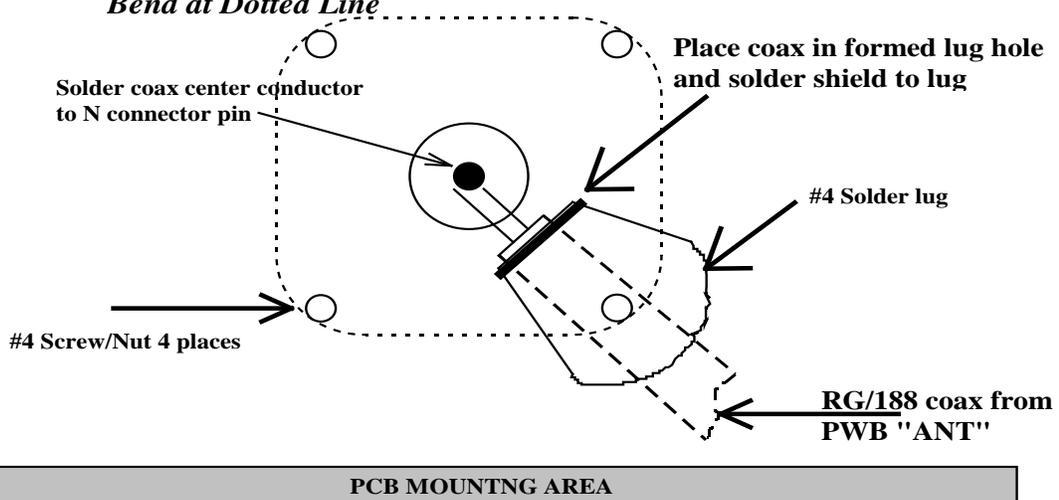

Figure 3 Inside View of Box, Solder Lug Installation on the 'N' Connector
- Push the center conductor of the un tinned end through the hole in the solder lug of the "ANT" connector and allow the shield to penetrate the ground lug hole. If not so bend ground lug towards the N connector center pin to accommodate coax (See figure 3). Solder the shield to the solder lug, then solder the center conductor to the N connector center pin.
4. Route the RX cable to the N connector and attach and solder as shown in figure 3 of the DEM assembly documents.